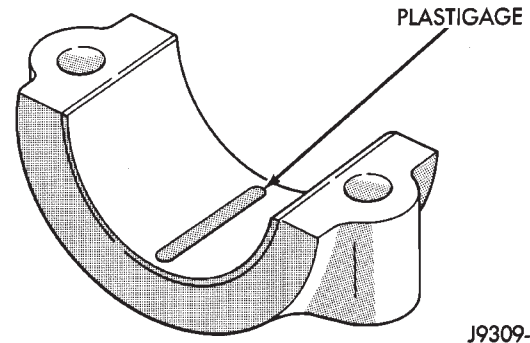

Fig. 2 Placement of Plastigage in Bearing Shell
- (1) Place a piece of Plastigage across the entire width of the bearing cap shell (Fig. 2). Position the Plastigage approximately 6.35 mm (1/4 inch) off center and away from the oil holes. In addition, suspect areas can be checked by placing the Plastigage in that area. Tighten the bearing cap bolts of the bearing being checked to required torque. (Refer to the torque specifications at the rear of the engine's section). **DO NOT rotate the crankshaft or the Plastigage may be smeared, giving inaccurate results.**
- (1) Remove oil film from surface to be checked. Plastigage is soluble in oil.
- (2) Place a piece of Plastigage across the entire width of the bearing cap shell (Fig. 2). Position the Plastigage approximately 6.35 mm (1/4 inch) off center and away from the oil holes. In addition, suspect areas can be checked by placing the Plastigage in the suspect area.
- (3) The crankshaft must be turned until the connecting rod to be checked starts moving toward the top of the engine. Only then should the rod cap with